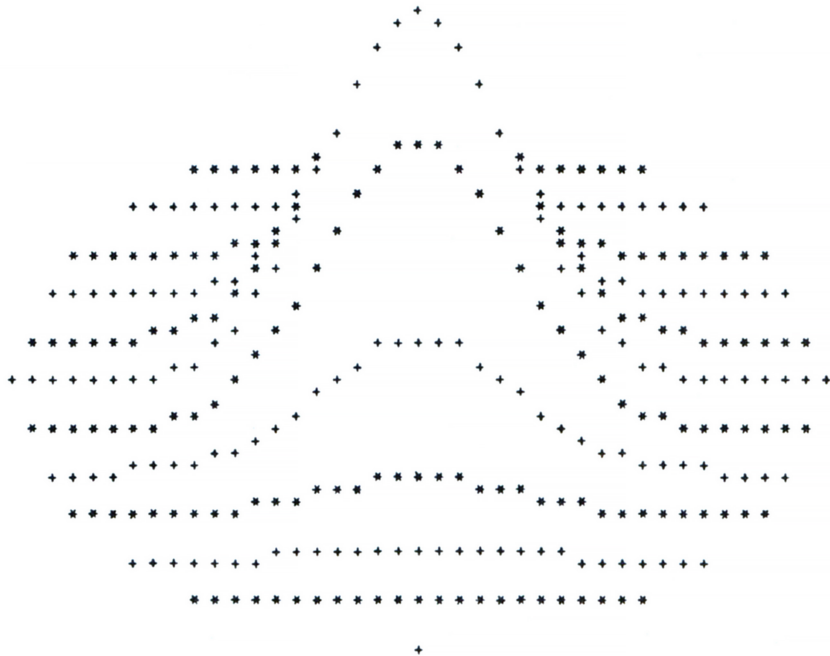
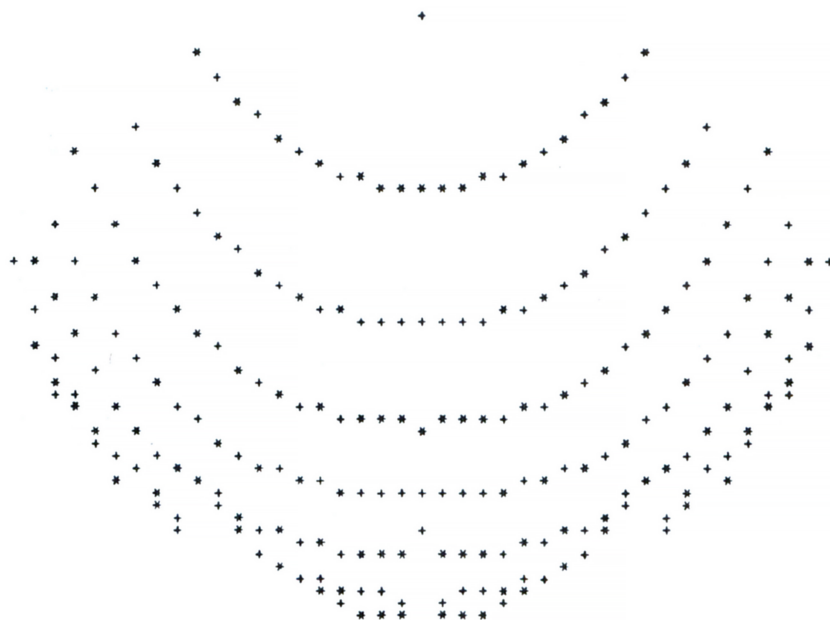

Figure 1: Plot of $Z = -30 * \text{EXP}(-f(x,y)^2 / 100)$
Figure 2: Plot of $Z = .001 * (f(x,y)^3 + f(x,y) - 25)$
To change the plotted equation, redefine function A (called FNA in the program) in line 60. Figure 1 shows the plot of the equation given in the program. Figures 2, 3, and 4 show different functions and their corresponding plots. Note that all figures have been rotated left by 90 degrees from the way they are actually printed.■
Figure 1: Interface circuitry for GRAPH. An astable multivibrator (IC2) provides the pulse train for a hardware repeat function. The authors' keyboard produces a low to high transition strobe (STB) pulse when a key is pressed. This is used to trigger a monostable multivibrator to provide a single pulse keypressed (KP) signal to interface with the IO board used.
The circuit in figure 1 uses a 555 timer (IC2) to generate the repeat pulse train and apply it to the keypressed line. Notice that it is important to gate the pulse train with the original keypressed STROBE DC level from the character generator line so that the oscillator will operate only when a character key is pressed. Otherwise, invalid data will
Another handy circuit is contained in figure 1 (lower lefthand corner). Most keyboards presently available provide a low to high strobe transition to indicate a key is pressed. Many IO boards, however, require a single pulse to latch the valid data. This portion of the circuit in figure 1 converts a DC strobe level to a single pulse output.
Figure 2: Visualization of line starting and ending addresses in GRAPH. This type of information is helpful in understanding the subroutines that check for valid screen addresses. The Processor Technology VDM-1 displays 16 lines of 64 characters per line which reside in 1 K bytes of programmable memory.
Data from any register can be moved to the screen with a MOV M, X (whose X is any register) instruction. The position on the screen is determined by the 16 digit number in the H, L register pair, which in this case would be between hexadecimal CC00 (first screen position) and CFFF (last screen position). Allocations of the starting and ending line addresses, as well as the first invalid address on either side of the screen, are shown in figure 2.